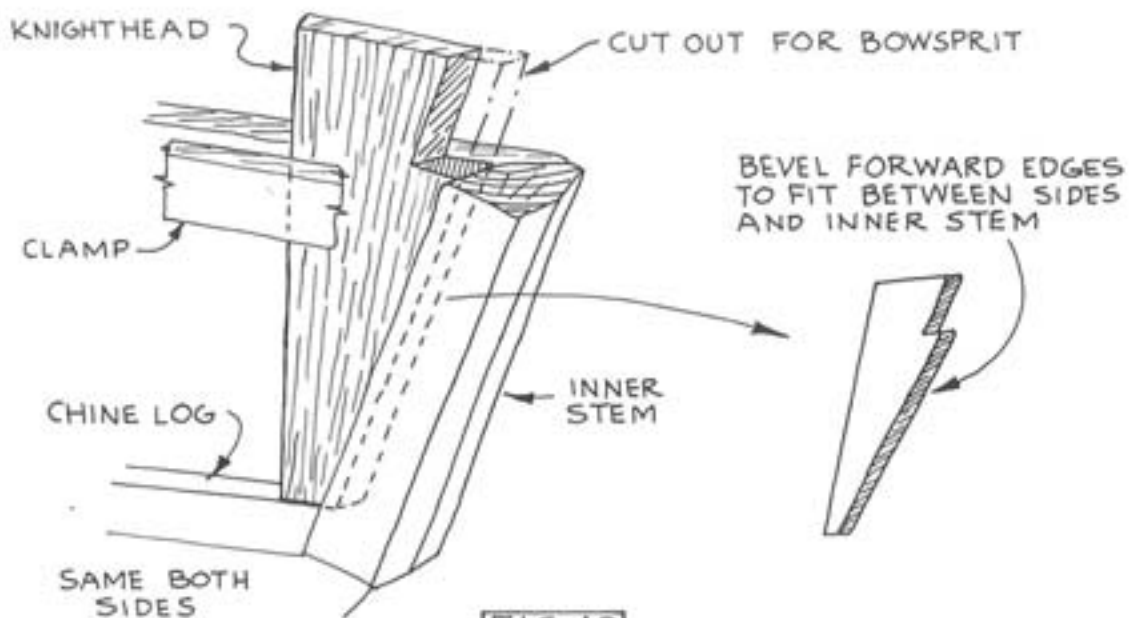

FIG 19
**Knightheads** — These are required no matter what type of framing you use, although you could add only the end above the deck. See Figure 19.